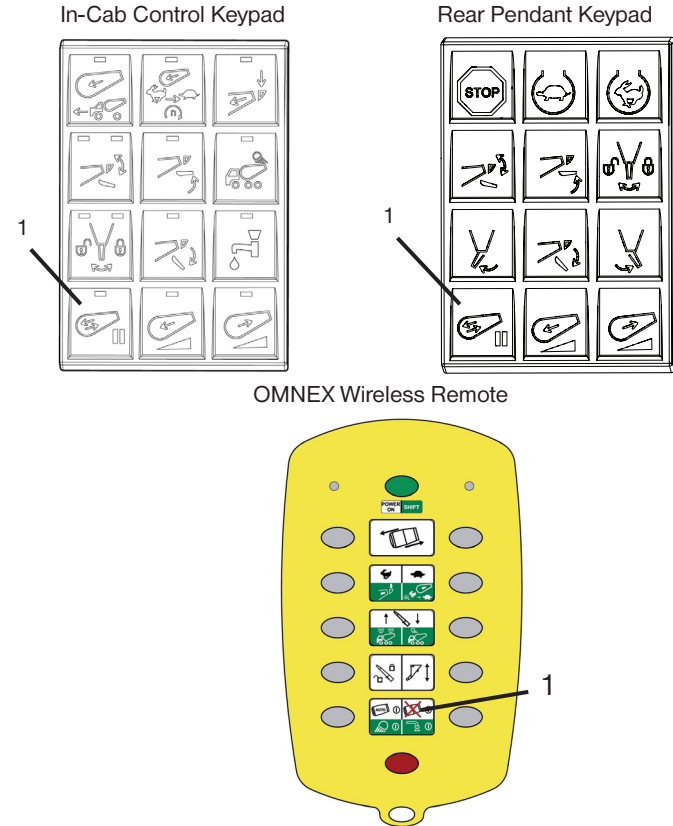

Figure 14
1. The drum STOP button (Figure 14, Item 1) must be OFF (this means the indicator light must be OFF) upon truck startup for drum rotation to be enabled.
Chute Lower Operation: Push the Chute Lower button to lower the chute (Figure 14, Item 4).